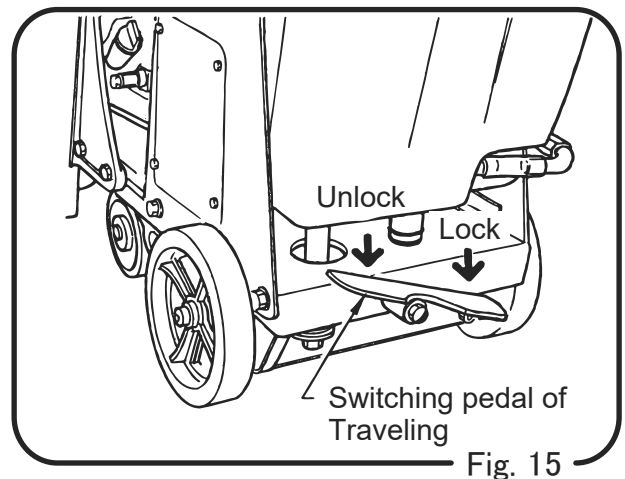

Fig. 15
- 8.2.5. To travel, switch the drive shaft by means of switching pedal and use traveling lever to proceed with cutting. (218). (Fig. 15)